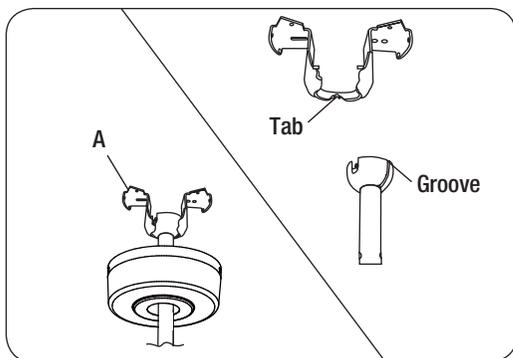

Figure 8
- Before making the electrical connections, carefully lift the fan assembly up to the mounting bracket (A). Seat the hanger ball in the mounting bracket socket. Make sure the tab on the mounting bracket socket is properly seated in the groove in the hanger ball (Figure 8).